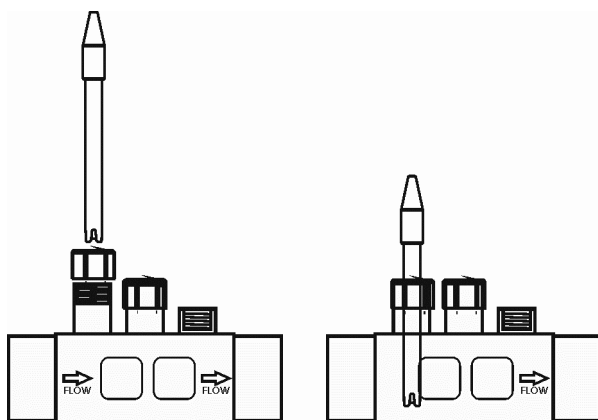

Fig. 12
1. Insert the pH sensor into their corresponding places of the holder (Fig. 12)